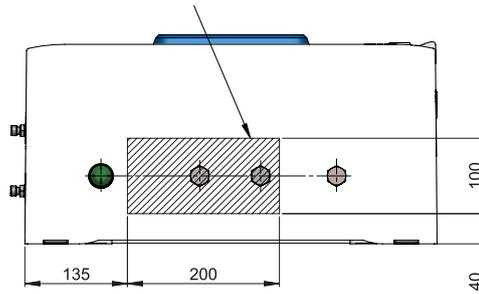

Figure 3.1 - The bottom face view of the MTL GIR6000 enclosure showing area for alternative or additional holes
- e) An entry for the power cable is provided, additionally two entry holes have been included adjacent to the power cable entry for the installers wiring. Any alternative or additional gland holes made by the installer must be kept within the area indicated on the bottom of the enclosure, please refer to figure 3.1. All holes made by the installer/user must be fitted with either a suitable cable gland or blanking plug. All glands or blanking plugs fitted to the enclosure must be appropriately certified (e.g. ATEX & IECEx) and have an Ingress Protection (IP) rating of at least IP54, and an operating temperature range of at least -10°C to $+40^{\circ}\text{C}$.